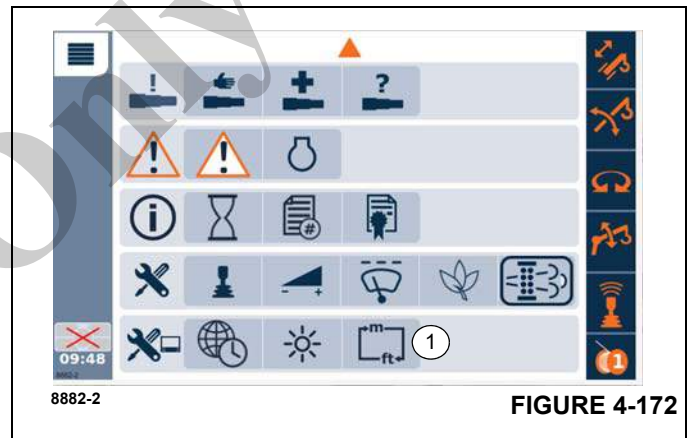

FIGURE 4-172
- Open the Switch units menu (1), (Figure 4-172).